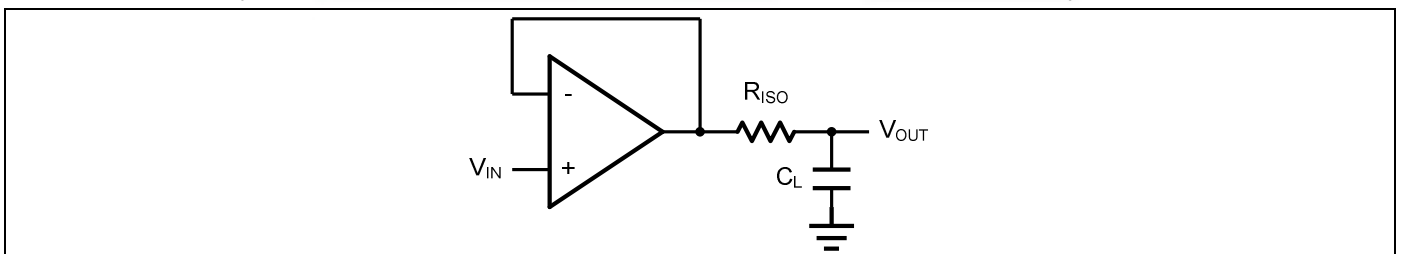
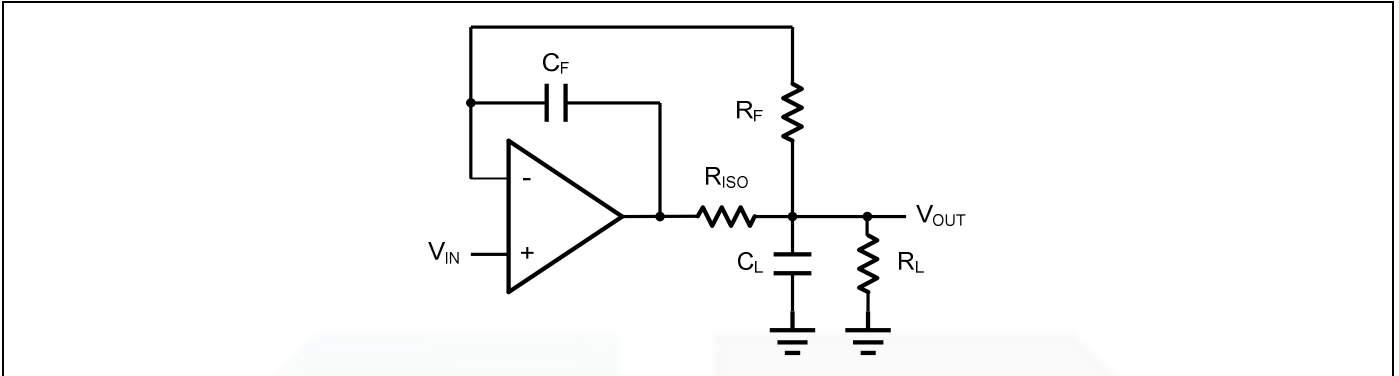

Figure 2. Indirectly Driving a Capacitive Load Using Isolation Resistor
Figure 3. Indirectly Driving a Capacitive Load with DC Accuracy
The LMV321 family is optimized for bandwidth and speed, not for driving capacitive loads. Output capacitance will create a pole in the amplifier's feedback path, leading to excessive peaking and potential oscillation. If dealing with load capacitance is a requirement of the application, the two strategies to consider are (1) using a small resistor in series with the amplifier's output and the load capacitance and (2) reducing the bandwidth of the amplifier's feedback loop by increasing the overall noise gain. Figure 2. shows a unity gain follower using the series resistor strategy. The resistor isolates the output from the capacitance and, more importantly, creates a zero in the feedback path that compensates for the pole created by the output capacitance.
The circuit in *Figure 3* is an improvement to the one in *Figure 2*. R_{F} provides the DC accuracy by feed-forward the V_{IN} to R_{L} . C_{F}